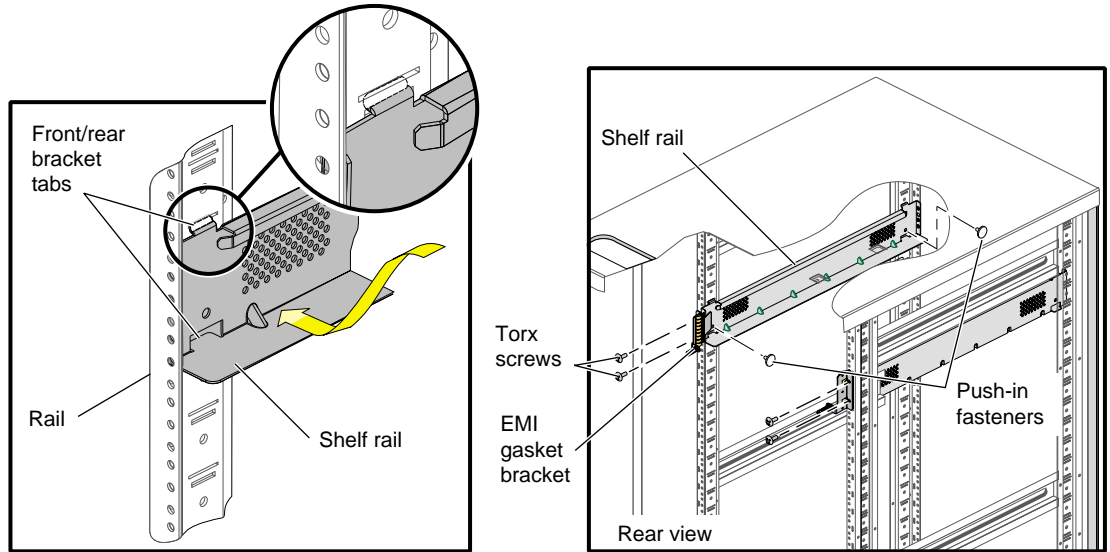

Figure 1-5 Shelf Rail Installation
2. In the slot location from step 1, position the left shelf rail at a 90-degree angle to the front and rear rack rails (see Figure 1-5).